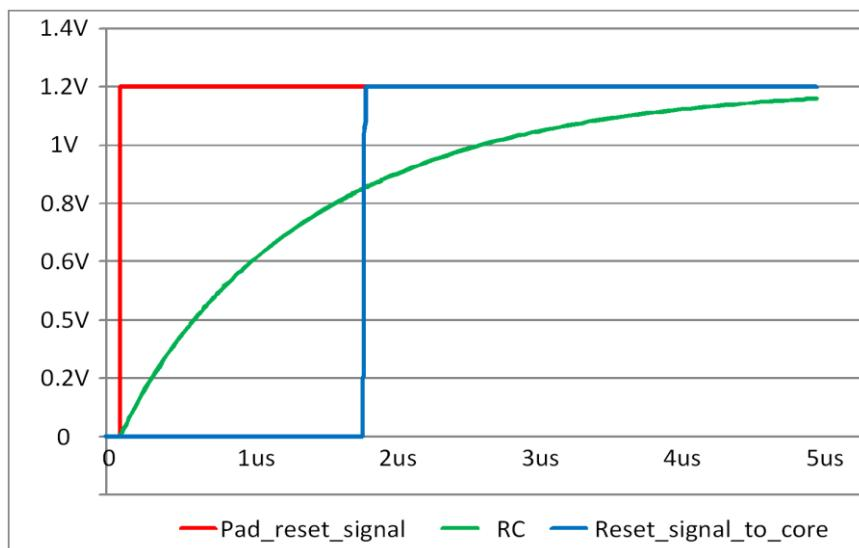

Figure 13: RST Pad Latency
The DA14585 comprises an RST pad which is active high. It contains an RC filter for spikes suppression with $400\text{ k}\Omega$ and 2.8 pF for the resistor and the capacitor respectively. It also contains a $25\text{ k}\Omega$ pull-down resistor. This pad should be connected to ground if not needed by the application. The response is illustrated in the Figure 13 which displays the voltage (V) on the vertical axis and the time (μs) on the horizontal axis: